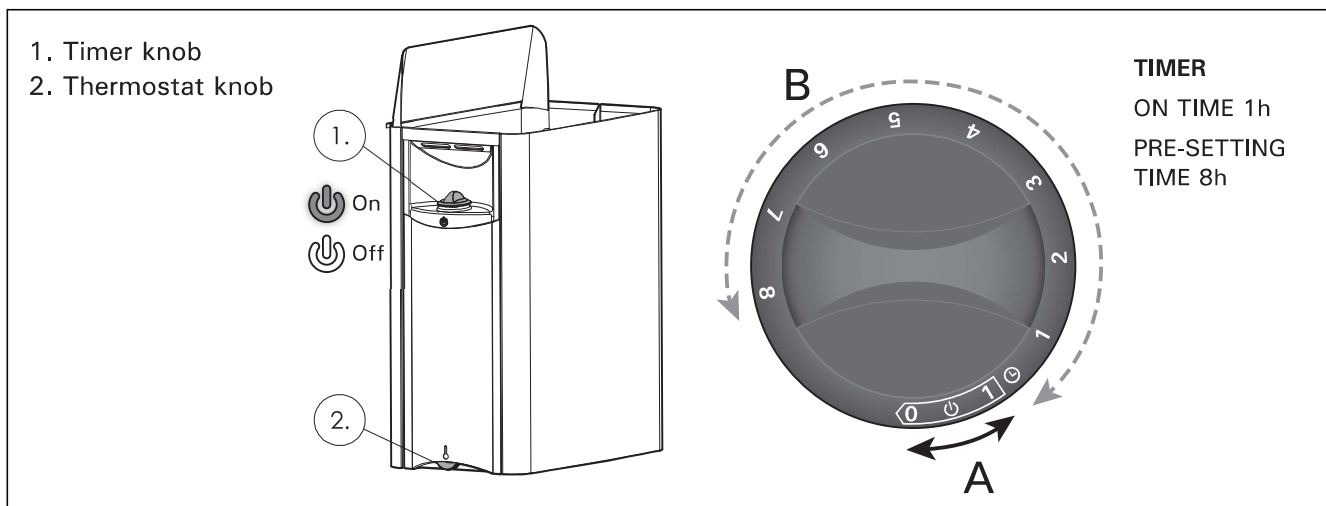

Figure 2. Knobs
Turn the timer knob clockwise to the “on” section (section A in figure 2, 0-1 hours). The heater starts heating immediately. Allow at least 30 minutes for sauna room to warm up to the average Sauna temperature.
To preset heating time, turn the timer knob clockwise to the preset section (section B in figure 2, 0-8 hours). The heater will turn on, when the preset time has passed and the timer has turned to the “on” section. The heater will stay on for approximately one (1) hour. The lights are lit also during the preset time.
The purpose of the thermostat (figure 2) is to keep the temperature in the sauna room on a desired level. By experimenting, you can find the setting that suits you best.